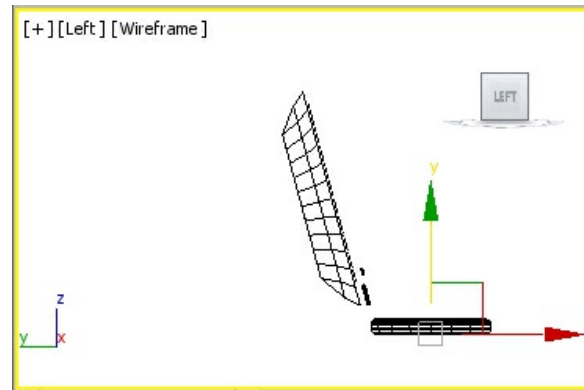

Figure 8-142 *The support geometry moved in the Left viewport*
6. In the Left viewport, move the cursor over the Y axis and move *support* below *LCD monitor*. Now move *support* in the horizontal direction, as shown in Figure 8-142.